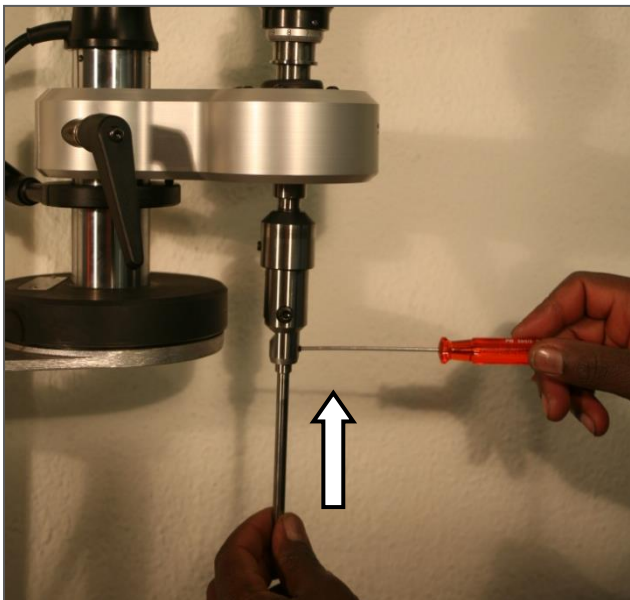

Fig. 9
5. Insert the correct pilot into the tool-head and secure the lower setscrew, by using the enclosed inhex key. Turn the advancing device to the upper position. Fig. 9